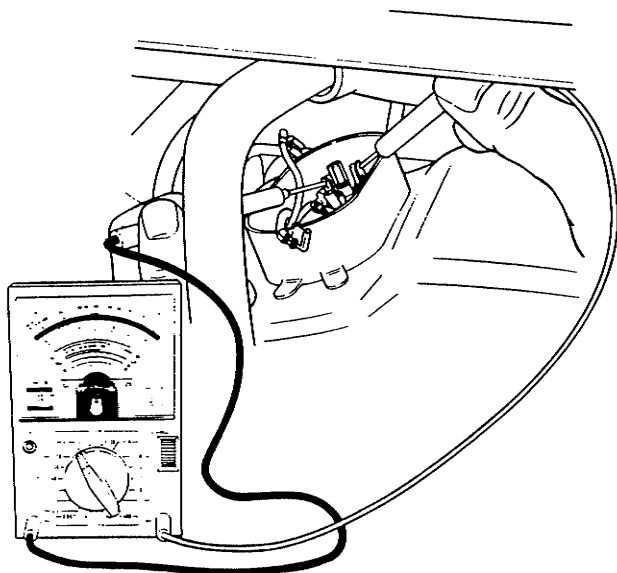

Figure 34. Ohmmeter and Connections
7. Connect ohmmeter to terminals C and R. Resistance through the run windings should be 0.5 ohms with ohmmeter set at X1 (Fig. 34).